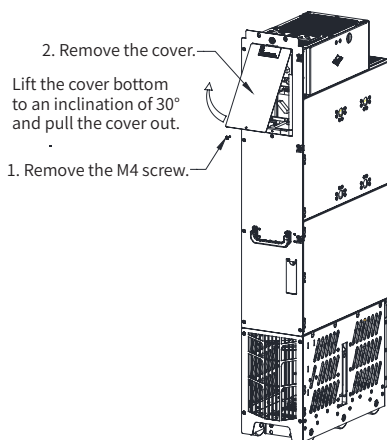

Figure 6-6 Removing the cover
- ① Unscrew the M4 screw on the cover and remove the cover, as shown in Figure 6-6;
- ② Loosen the M10 bolts at the top and bottom of the fuse with a wrench and take out the fuse.
- ③ Remove the M10 bolts.